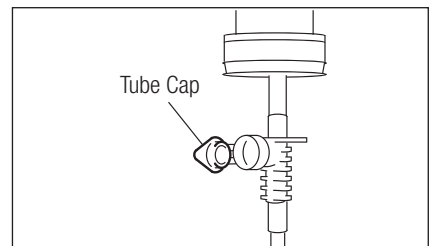

Fig.12
- 2) Open the tube cap to supply air into the bottle. (Fig. 12)